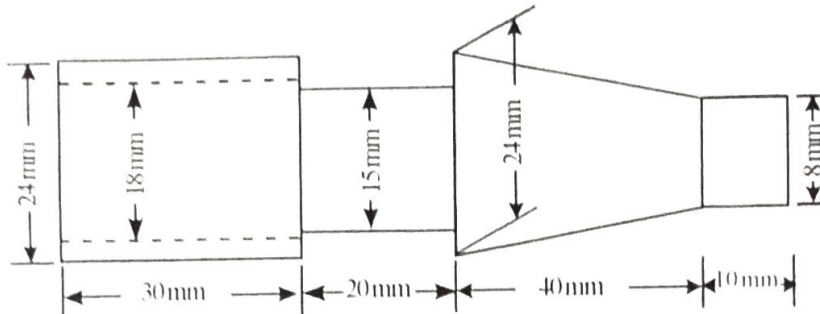

Fig. 1
1. Prepare the turning job using lathe as per the drawing shown in Fig.1. 50